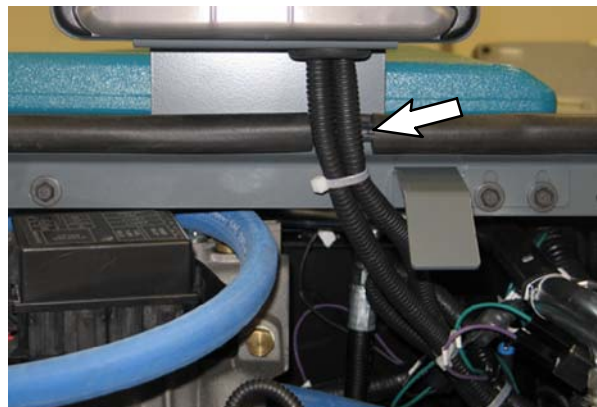

FIG. 2
4. Cut 44 mm (1.75 in) notch into seal to allow space for routing the backup harness (1). Refer to Fig. 2.